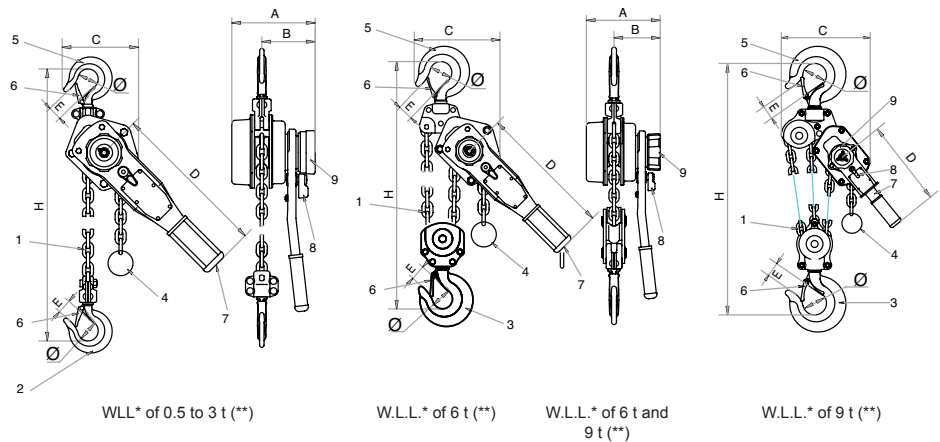
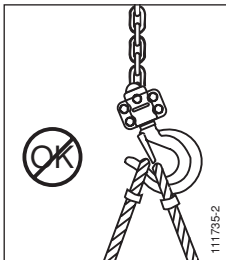

Fig. 1
Fig. 2
The bravo™ hoist is supplied with a standard 1.50 m length of load chain (item 1, fig. 1). The load chain used with the 0.5 t to 3 t models is formed by a single strand with a lifting hook (item 2, fig. 1) at its end. The lifting chain (item. 1 fig. 1) of the 6 t model is made up of two strands and a sheaved lifting hook (item 3, fig. 1). The lifting chain (rep. 1 fig. 1) of the 9 t model, is made up of three strands and a sheaved lifting hook (item. 3, fig. 1).
The free end of the chain is equipped with a low limit stop (item 4, fig. 1).
1. Check that the bravo™ hoist is properly suspended by its suspension hook (item 5, fig. 1) and that the hook safety catch (item 6, fig. 1) is properly closed (see figs. 2 and 3).
1. The anchoring accessory of the load sits fully in the hook and does not prevent the catch from closing correctly (see figs. 2 and 3).
The bravo™ hoist is operated by means of an actuating handle (item 7, fig. 1) which is moved back and forth by the operator to lift or lower a load, pull a load, or apply tensioning.
2. Set the movement selector lever (item 8, fig. 1) to the neutral position "0".